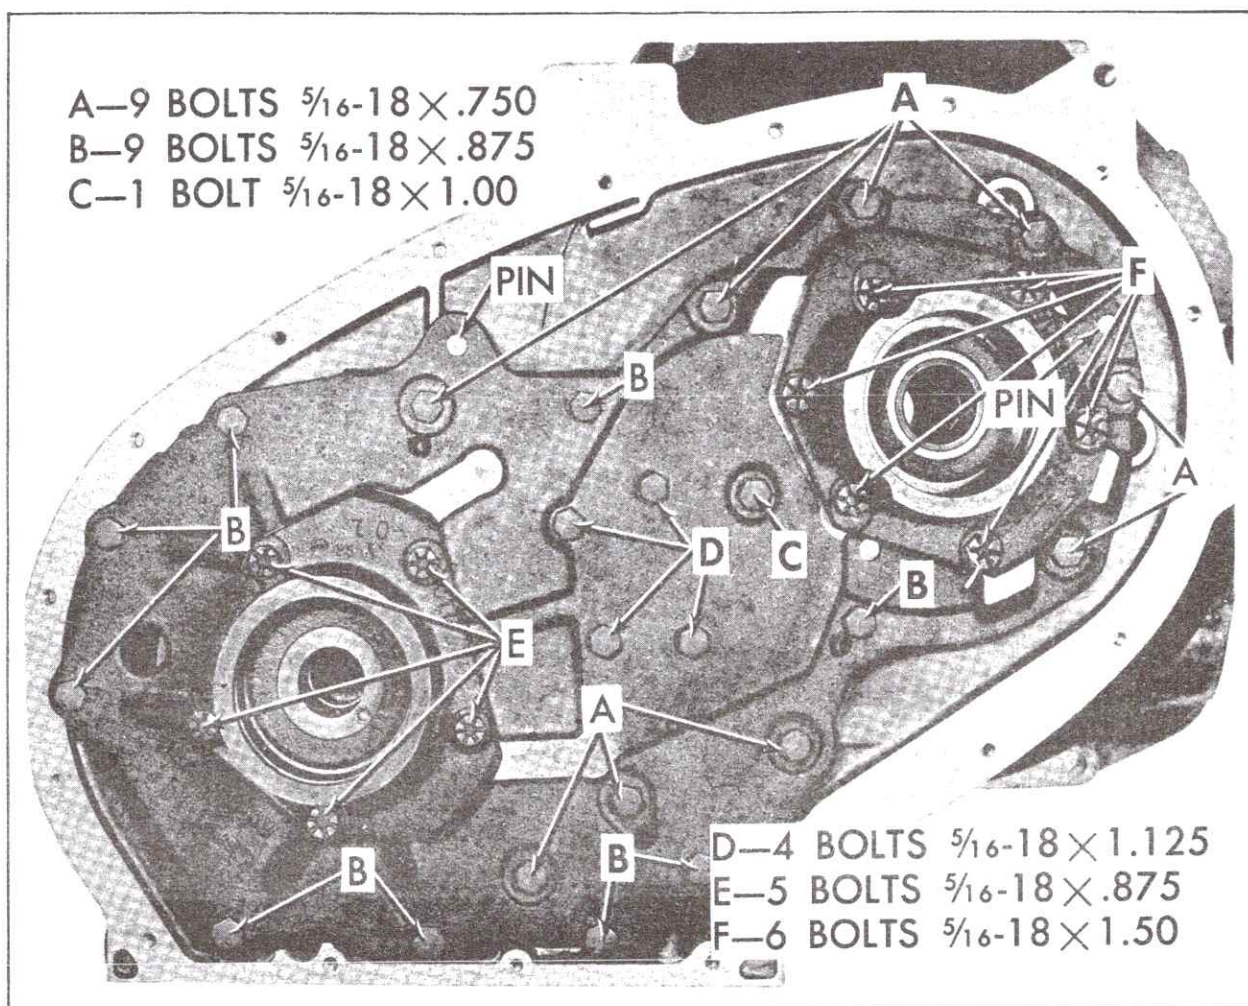

Fig. 7-191 Pump Cover Plate Bolt Chart
2. Install pump cover plate on transmission and install attaching bolts per bolt chart, Fig. 7-191.
c. Install six retaining bolts (F), finger tight, Fig. 7-191.